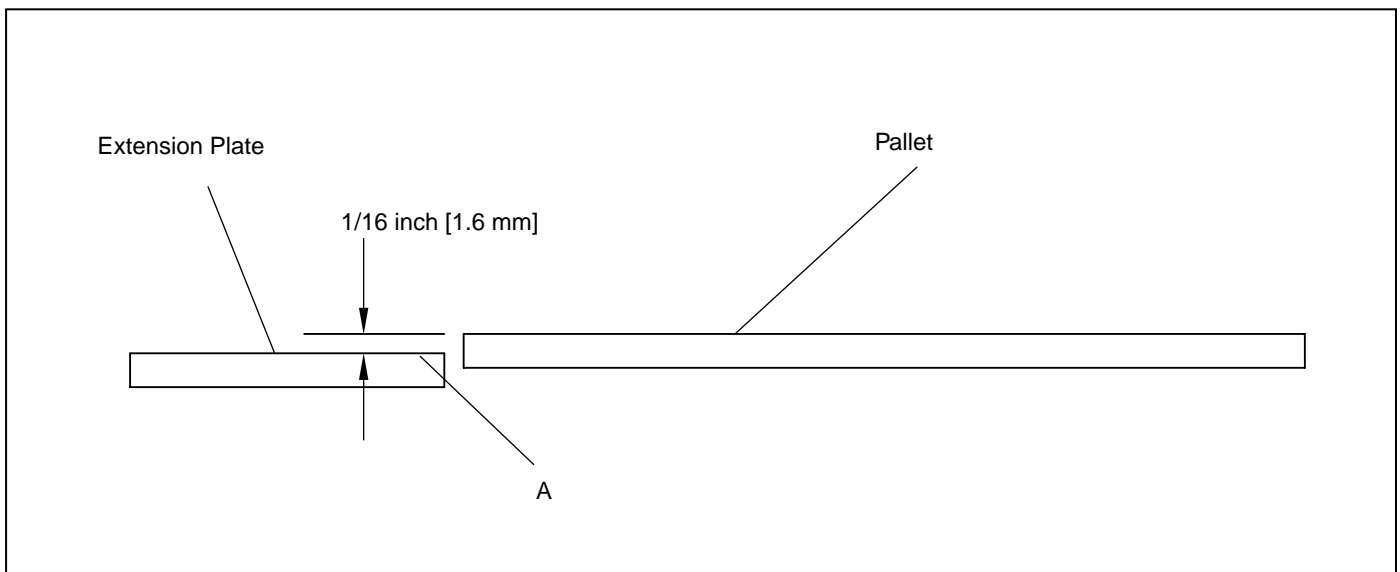

Figure 1.1 Installation
3. Place an empty pallet on the conveyor. Adjust the depalleter up or down until the pallet is approximately 1/16 inch [1.6 mm] higher than the wear plate (Figure 1.1, ref. A).